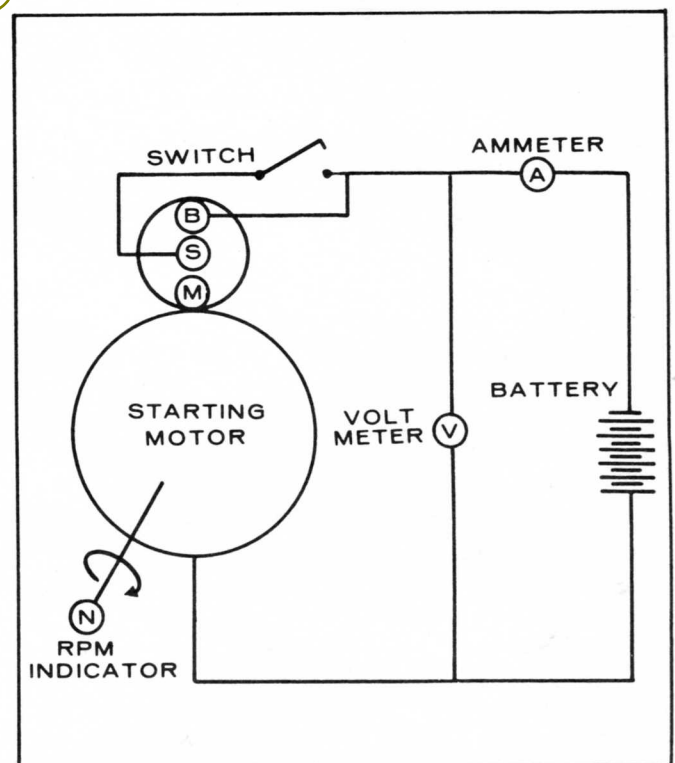

FIGURE 68. STARTER MOTOR WIRING
1. For no load test, the starting motor is wired as shown in Figure 68 and run. The value of the meter reading at this condition should be as follows: